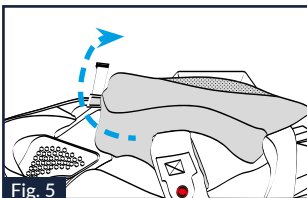

Fig. 5
5.3. Hold the front part of the pad of the left cheek pad and turn it upwards to unhook the front and upper hooks on its back (Fig. 5).
12.4. Press the pad of the left cheek pad against the polystyrene cheek pad and at the same time turn it inwards to fasten the front and top hooks on its back. (Fig. 5).